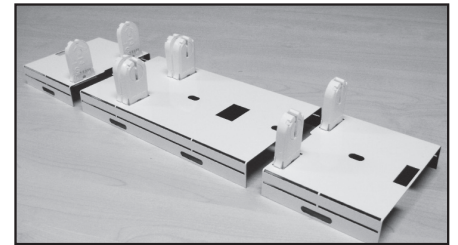

Figure 2: Bend the flexible tabs on the Retrofit Socket Plate 90 Degrees.
6. Bend the flexible tabs of all three sections of the RetroFit Socket Plate approximately 90 degrees. See Figure 2.